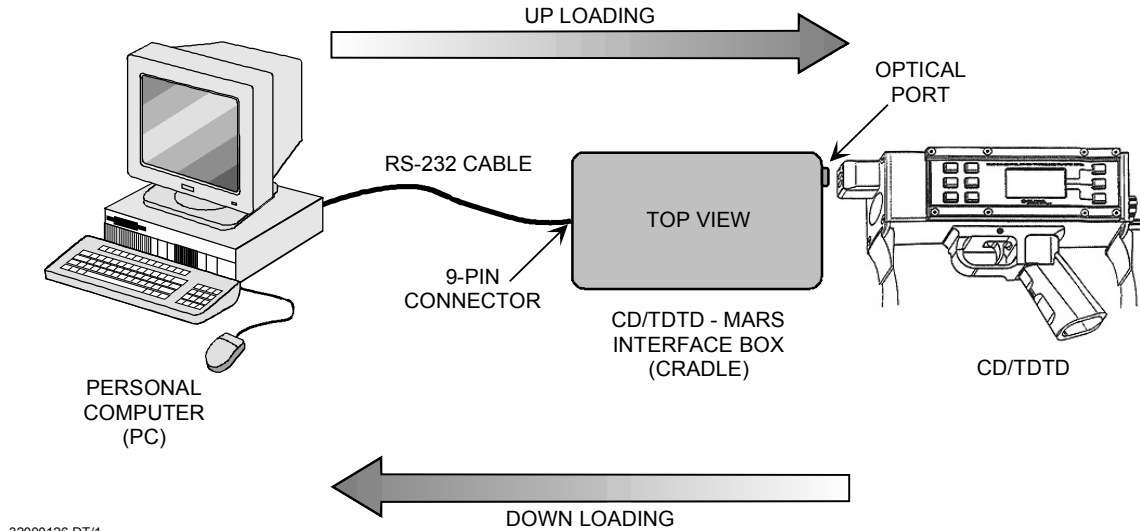

Figure 2-1 Uploading/Downloading Configuration
MARS is supplied with one (1) 9-pin serial interface cable and the CD/TDTD MARS Interface Box. This is designed to interface to both the PC and the CD/TDTD. (See Figures 2-1 and 2-2.) Connect the serial interface cable female end to the RS-232 port on the rear of the PC, and the male end to the 9-pin connector on the Interface Box. Position the Optical Port to the optics of the CD/TDTD, ensuring that the notch is fitted correctly, prior to uploading or downloading any data. The Optical Port has been designed so that the CD/TDTD and the Interface Box can be laid on a flat surface while connected.
3.3.1 Transfer Data to CD/TDTD. Uploading data is the process of transferring data for a particular exercise to the CD/TDTD from the MARS. Allows user to select Surrogate Setup Data or any number of or all Vehicle/Target Data, Manworn IWSC Data, TOW Tracker Head Data, or MTID Data to download to the CD/TDTD. The system Administrator also is provided the capability to select all or de-select all of the above. (See Figure 2-1.)
a. **Main Screen** consists of multiple data sets that may be transferred and two (2) function buttons - **Transfer Data** and **Done**.
NOTE** Be sure to connect the CD/TDTD to the Optical Port before attempting data transfer. (See Figure 2-1.)